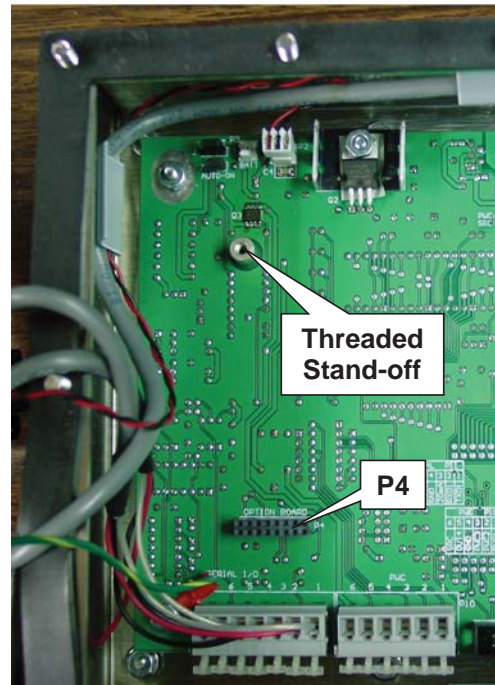

Figure No 6
6. Referring to Figure No. 6, locate the threaded stand-off and P4 OPTION BOARD connector (above P11, SERIAL I/O) on the main board.